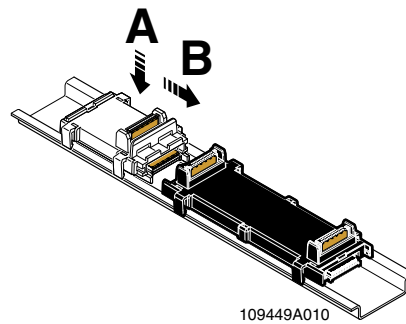

Figure 4-7 Mounting bus base module(s): AXC F 3152
When mounting the bus base module for the SPLC 1000, proceed as illustrated in Figure 4-7:
- Place the bus base module for the SPLC 1000 on the DIN rail (A in Figure 4-7).
- Push the bus base module for the SPLC 1000 into the connection of the bus base module for the AXC F 3152 (B in Figure 4-7).